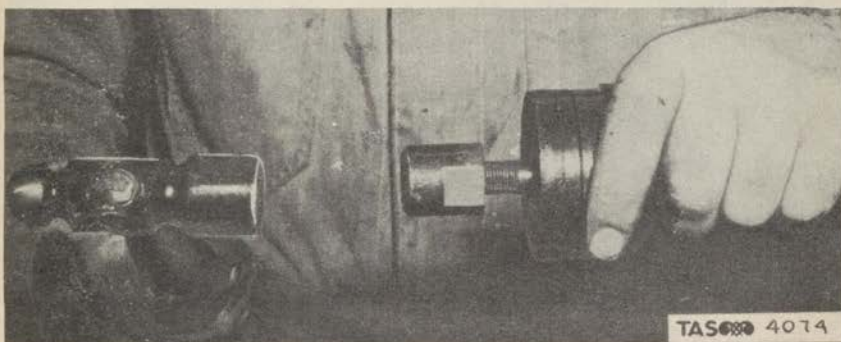

Figure 114. Attaching Valve and Loosening Washer.
(12) Attach the valve and loosen the washer. (Fig. 114)